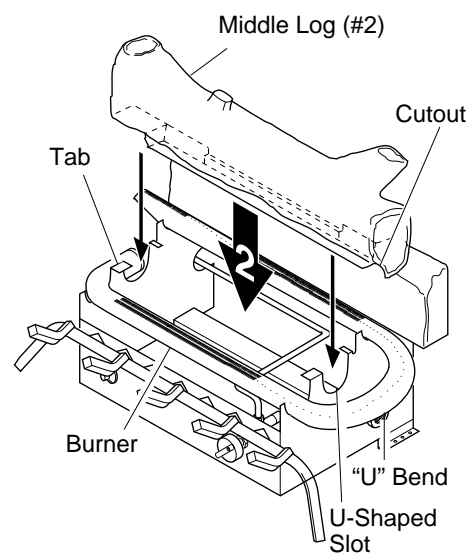

Figure 19 - Installing Middle Log (#2)
2. Place the base of the middle log (#2) in the U-shaped slots of the grate base in front of the back log. The cutout on the right of the middle log should fit over the burner (see Figure 19). Make sure the front of the middle log is resting on the tabs of the grate base and the cutout area is centered over the burner "U" bend.